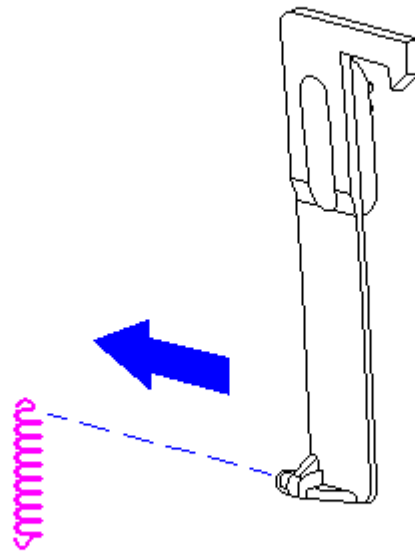

Figure 3-132. Removing the Display Latch Spring from the Latch (Models 420 and 430)
6. Remove the display latch spring from the latch (Figure 3-132).